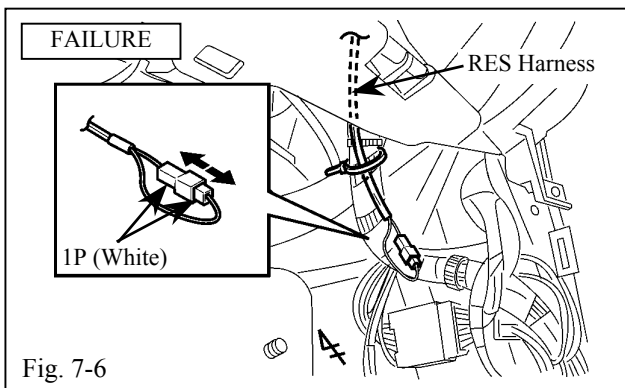

Fig. 7-6
- (f) If you fail this procedure, the hazard lights flash twice. Registration will not set. Disconnect the RES harness white 1P connector from the passenger side cowl area. (Fig. 7-6)